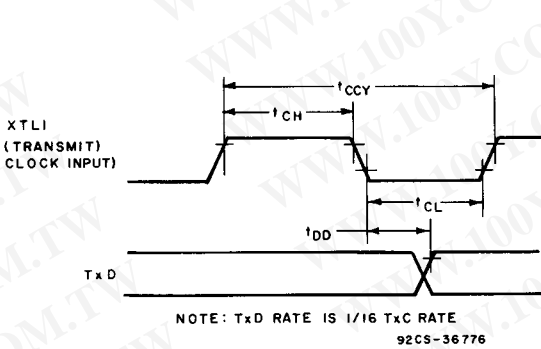

Fig. 23 - Transmit timing waveforms with external clock.
**DYNAMIC ELECTRICAL CHARACTERISTICS-TRANSMIT/RECEIVE, See Figs. 23, 24 and 25.**